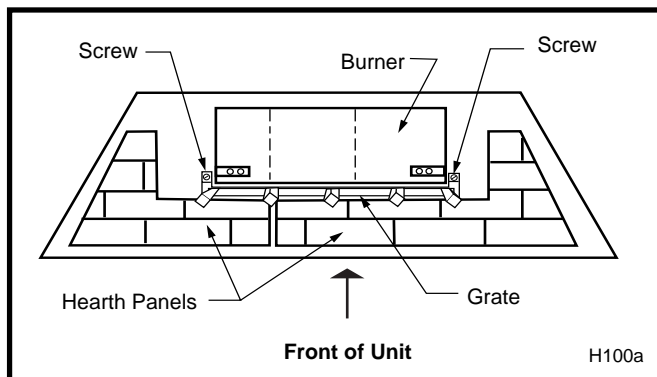

Fig. 28 Hearth panel location.
4. Remove two (2) screws securing grate to hearth pan. (Fig. 28)